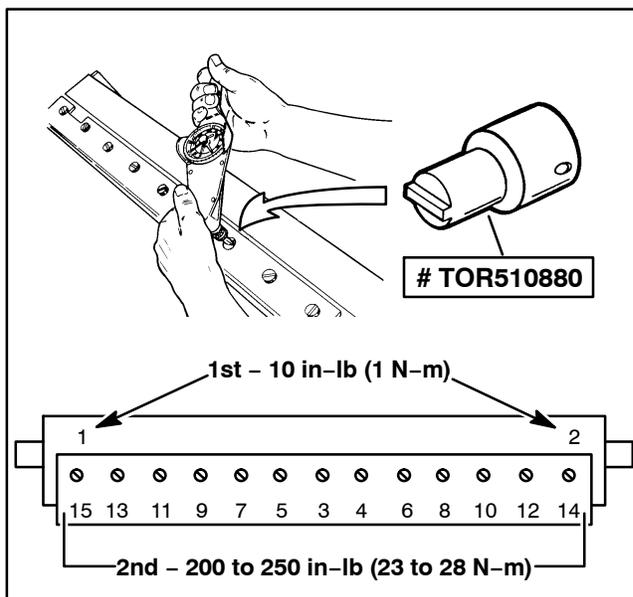

Figure 19
6. Working from the center of the bedknife toward each end (Fig. 19), tighten screws from **200 to 250 in-lb (23 to 28 N-m)**.